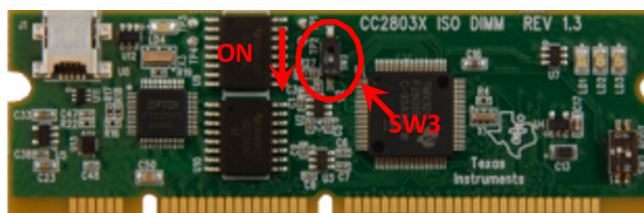

Figure 2. controlCARD Setup
4. Switch **SW3** on the Control Card must be in the **On** position see Figure 2.